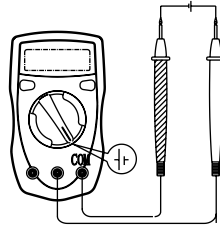

Figure 7
G. The Model UT33B: Battery Test (see figure 7)